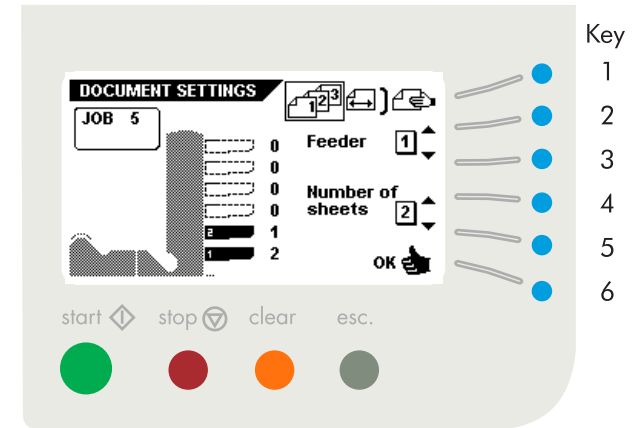

Fig. 39
When the “document settings” menu is selected and key 3 is pressed in the “job settings” menu, the display shows the screen as shown in fig. 39.
When number of sheets is selected the following choices are available (see fig. 39):